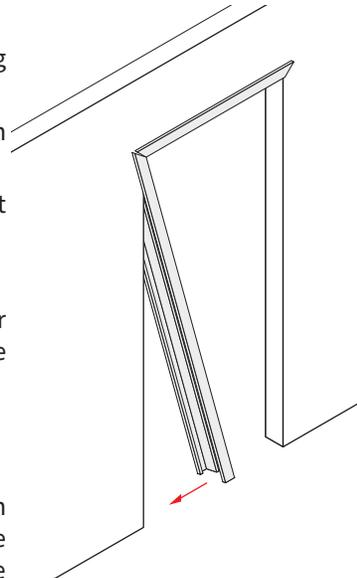

Figure 11: Install Hinge Jamb
3. Install Hinge Jamb (Figure 11)